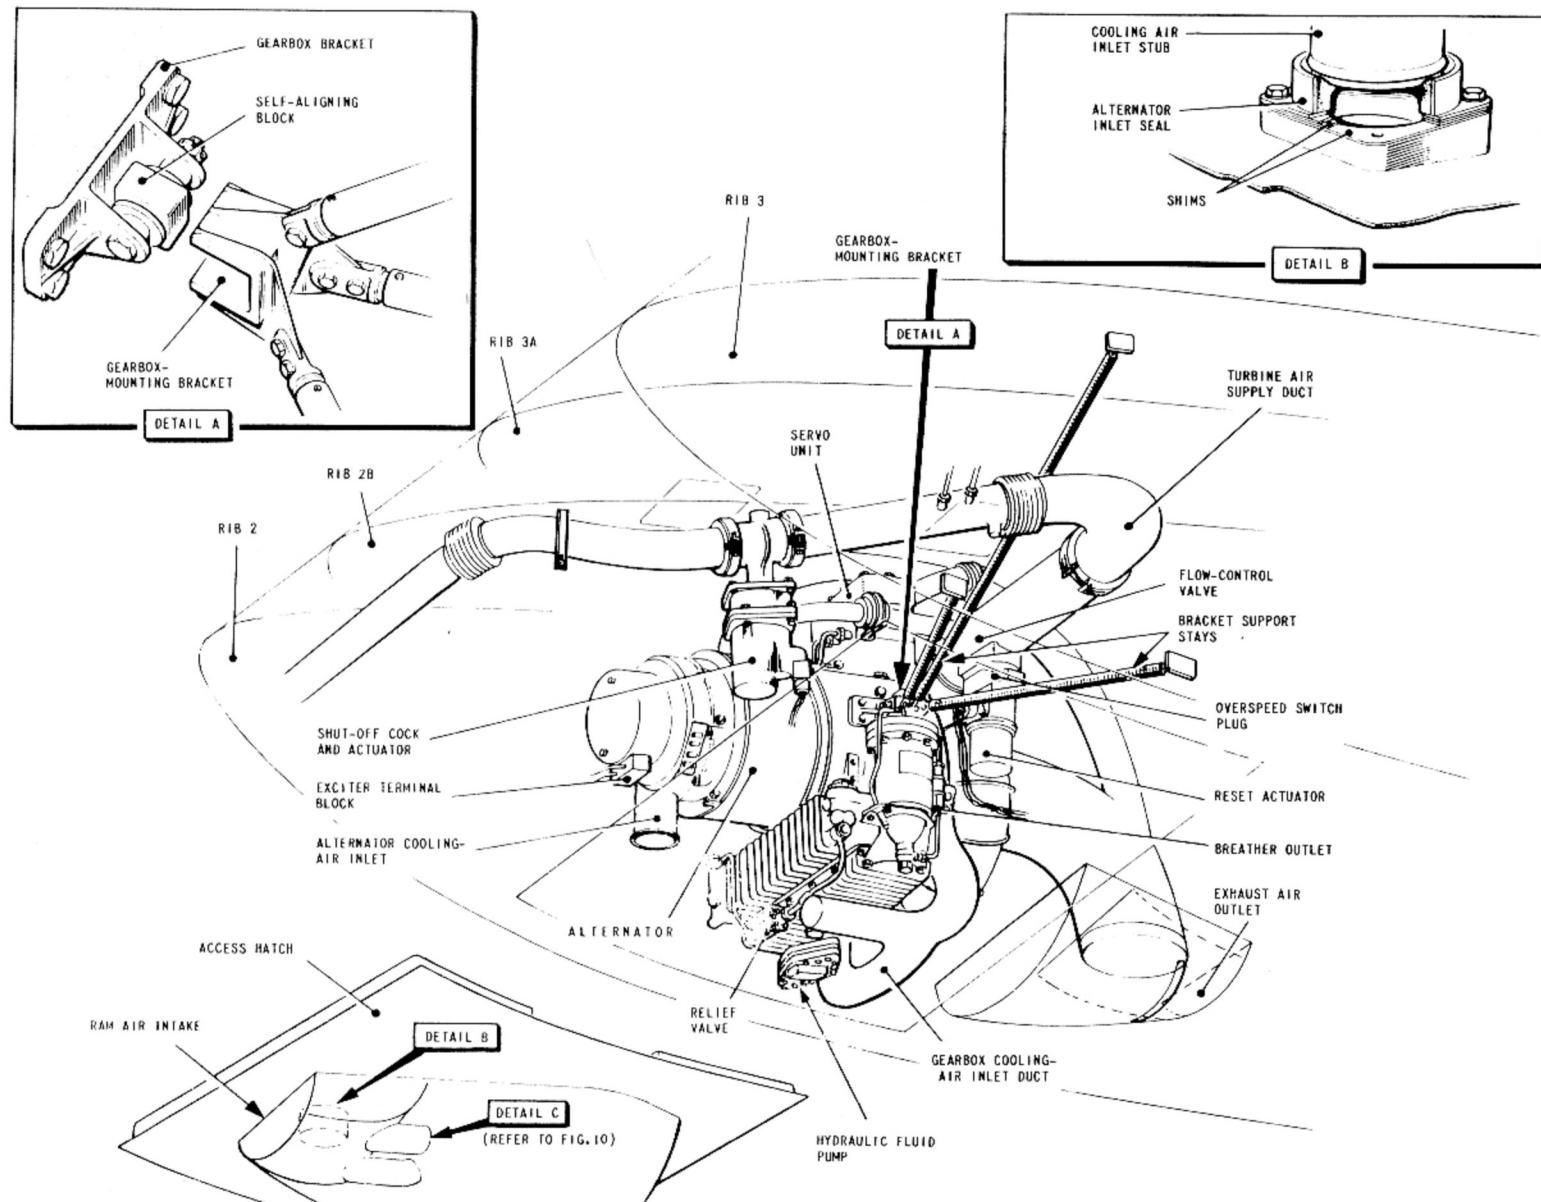
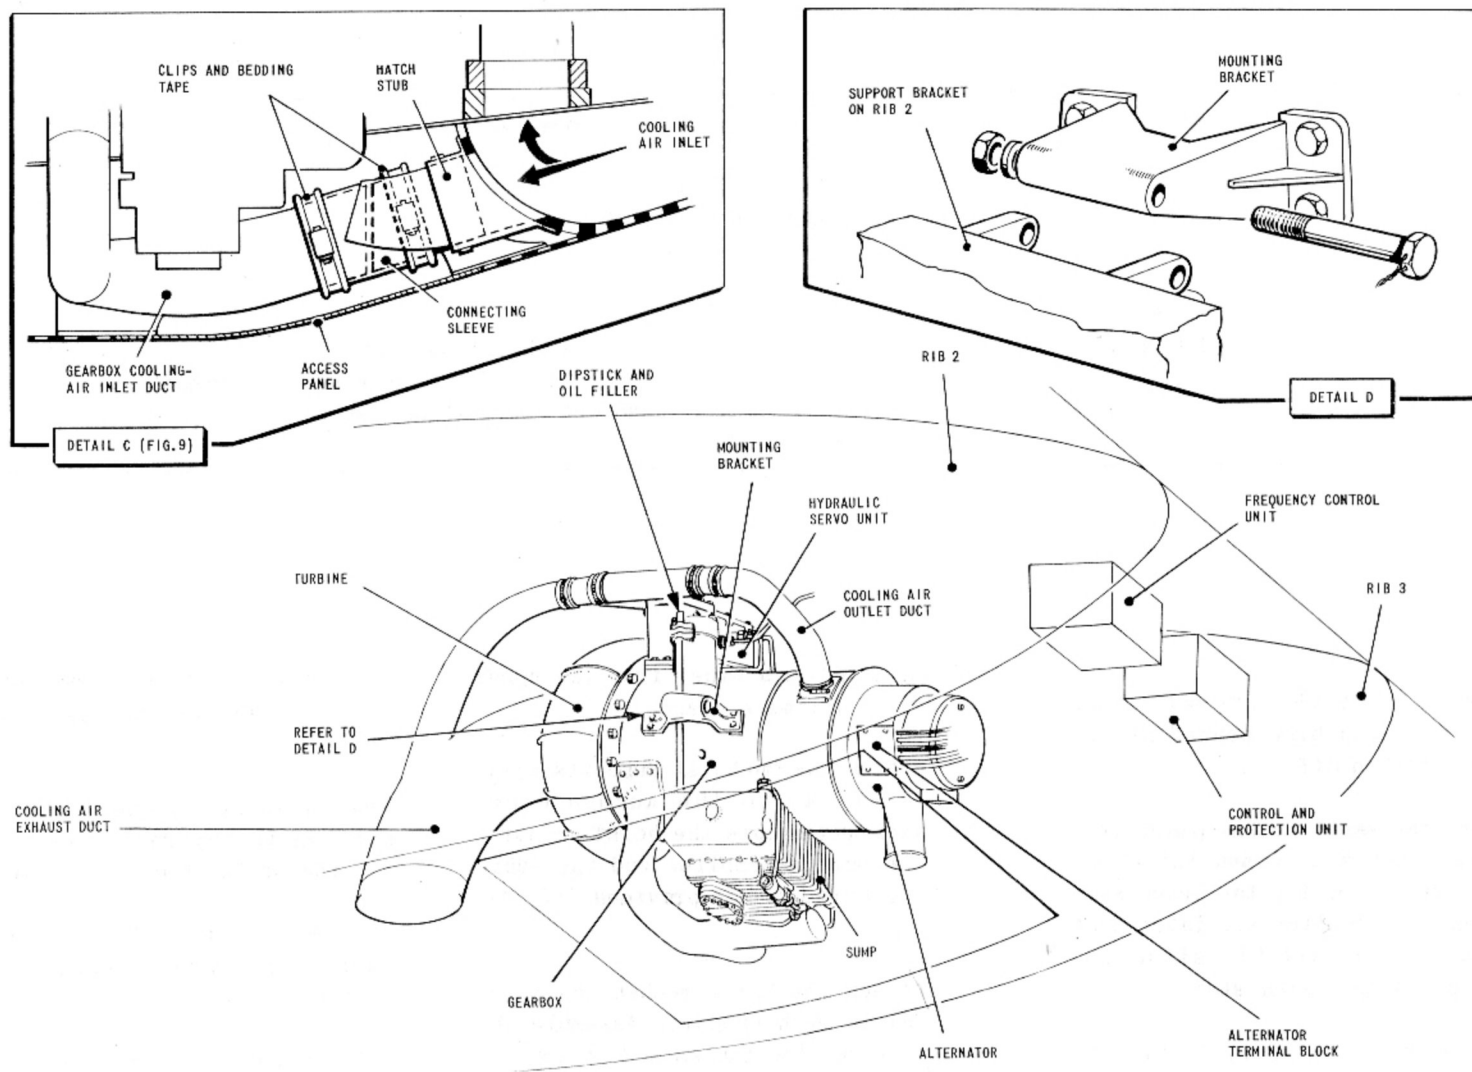

FIG. 9. TURBINE - GEARED ALTERNATOR - REMOVAL AND ASSEMBLY (1)
FIG. 10. TURBINE - GEARED ALTERNATOR - REMOVAL AND ASSEMBLY (2)
KEY TO FIG. 9, 10 AND 11 (TURBINE-GEARED ALTERNATOR - REMOVAL AND ASSEMBLY)
(1) Ensure that the 28-volt d. c. supplies to the turbine-geared alternator are switched off.
(2) Remove the small access panel from the access hatch and loosen the clips of the sleeve connecting the hatch stub with the gearbox cooling air inlet duct (*fig. 9 and 10, detail C*); slide the sleeve clear of the hatch stub.
(3) Remove the access hatch, complete with ram-air intake, from beneath the main plane.
(4) Remove the two access panels (in line with rib 2B, port side, and rib 2B
KEY TO FIG. 9, 10 AND 11 (TURBINE-GEARED ALTERNATOR - REMOVAL AND ASSEMBLY) - continued
(12) Remove the pipe connections from the sump vent.
(13) Remove the bolts securing the cooling air inlet ducts to the gearbox apertures. Remove the ducting.
(14) Remove the locking wire from the bolt head and remove the nut, washers and bolt (*fig. 10, detail D*) securing the gearbox assembly to the mounting bracket.
(15) Tilt the turbine-g geared alternator so that the mounting bracket can be withdrawn from the self-aligning block (*fig. 9, detail A*) and then move the assembly forward until it is clear of both attachment brackets. Using the hoists, lower the assembly down through the access hatch and on to a suitable stand.
(16) Release the air pressure in the hydraulic fluid accumulator, and fit blanking plates to all apertures.
(4) Carefully raise the unit into the main plane and, when in position, tilt it so that the gearbox mounting bracket (*fig. 9, detail A*) slides on to the self-aligning block. Position the unit so that the mounting bracket (*fig. 10, detail D*) lines up with the support bracket before fitting the attachment bolt, washer and nut. After tightening the nut, wire-lock (with 22 s.w.g. wire to D.T.D. 189) the head of the bolt to the adjoining structure. Remove the hoists and supports.
(5) Remove the transport covers from the flow control valve inlet, the turbine outlet and the cooling air inlet and outlet ports of the gearbox and alternator. Remove the transport cover from the gearbox breather outlet, the tape from the holes in the top plate of the flow-control valve, and fit the breather outlet pipe.
(6) Connect the air supply duct to the flow-control valve, the air exhaust duct to the turbine and the cooling air outlets to the alternator and gearbox respectively, using split clamps. Tighten the bolts in the clamps evenly to ensure that firm joints are obtained without distortion of either the bolts or the clamps.
(7) Fit the gasket shims to the gearbox cooling air inlet flanges, removing the shims as necessary for adjustment; then secure the cooling air ducts to
(8) Slide the connecting sleeve (*fig. 10, detail C*), complete with its bedding tape and clips, clear of the ends of the gearbox cooling-air ducts until the access hatch is fitted.
(9) Unscrew the protective cap from the electrical plug on the hydraulic servo, and connect the socket on the cable loom from the frequency control unit.
(10) Remove the covers from the two
plane undersurface, taking care that the alternator inlet seal (*fig. 9, detail B*) seats firmly on the alternator cooling air intake stub. Peel off or add shims as necessary, tightening the bolts of the seal mounting when satisfactory adjustment has been achieved.
(14) Remove the small access door from the access hatch. Slide the connecting sleeve (*fig. 10, detail C*) and secure it by its clips to the gearbox cooling air duct and the stub of the hatch. Refit the access door.
(15) With the engine running, carry out an electrical functioning test (*Sect. 6, Chap. 13*).